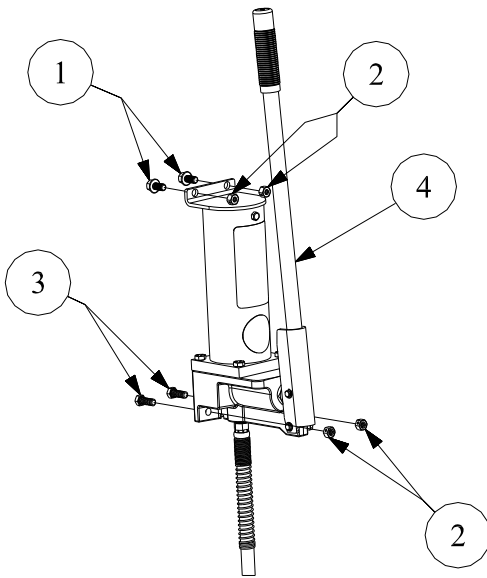

Figure 1
1. Insert the two 3/8" X 3/4" flange head bolts [#1] through the holes in the pump [#4] as shown in Figure 1 and start two 3/8" nuts [#2] onto the bolts. Only start the nuts [#2] one or two turns onto the bolts [#1].
2. On the opposite end of the pump [#4], insert two 3/8" X 1" bolts [#3] and start a 3/8" nut [#2] on each bolt. See Figure 1. Only start the nuts [#2] one or two turns onto the bolts [#3].